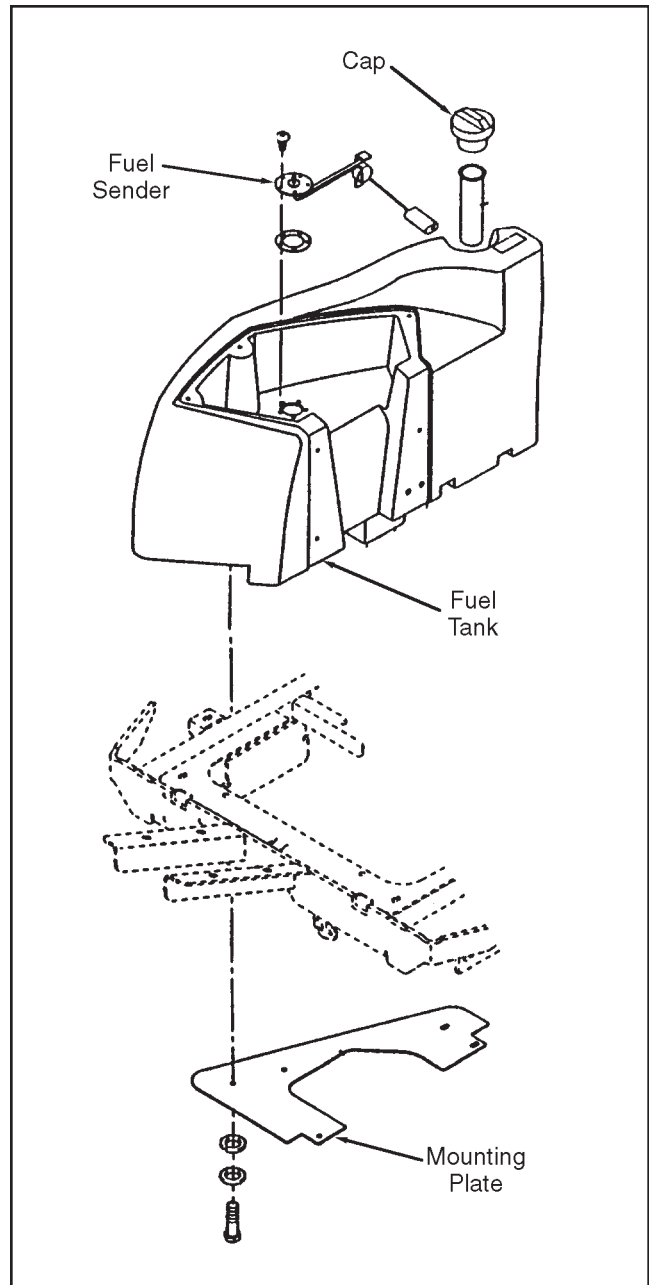

Figure 9C-1. Fuel Tank Removal and Installation
(See Figure 9C-1)
5. Replace damaged or leaking tank and install as shown in Figure 9C-1.